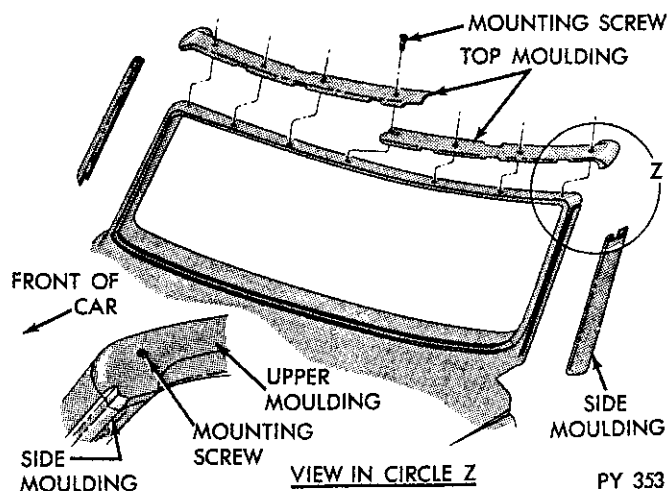

Fig. 6—Windshield Moulding
(1) Cover cowl, hood and fender area with a protective covering.
(2) Release top locking mechanisms and push header from windshield frame to expose moulding retainer screws.
(3) Remove wiper arms and blades.
(4) Remove windshield outside mouldings (Fig. 6).
(5) Remove inner "A" post side mouldings.
(1) Position header cap moulding up against weatherstrip, force moulding against weatherstrip, and press rear edge down over header.
(2) Install screws loosely to hold in position and lightly tap with a rubber hammer to seat. Be sure cap is evenly spaced across header.
(3) Tighten screws securely.
(4) Water test windshield area.
(5) Install windshield outside mouldings (Fig. 6) and "A" post moulding.
(6) Install sun visor, wiper arms and clean windshield.